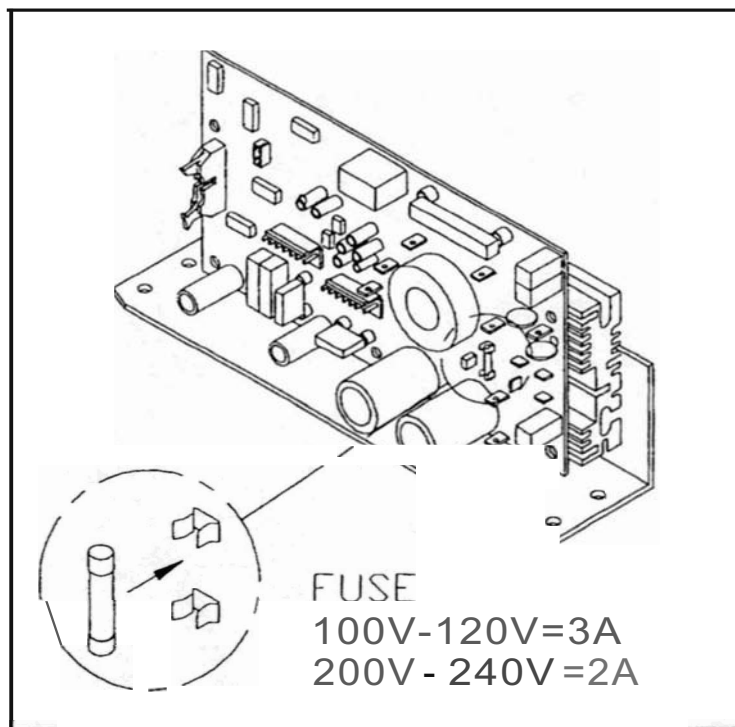

Fig.2
2. Insert new fuse on drive board.(see Fig.2)